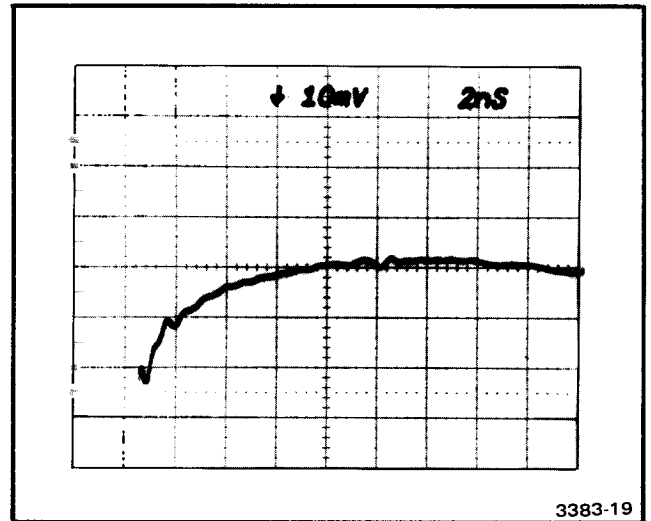

Fig. 4-9. Typical response curve as displayed on the sampling oscilloscope.
- l. Adjust—C940 for minimum aberrations with risetime ≤ 1 ns. A slight amount of front-corner overshoot is desirable. Refer to Fig. 4-9.